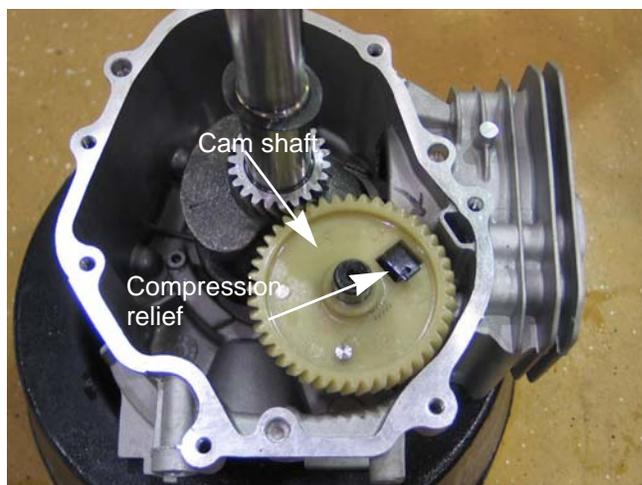

Figure 10.2
11. Remove the camshaft. See Figure 10.2.